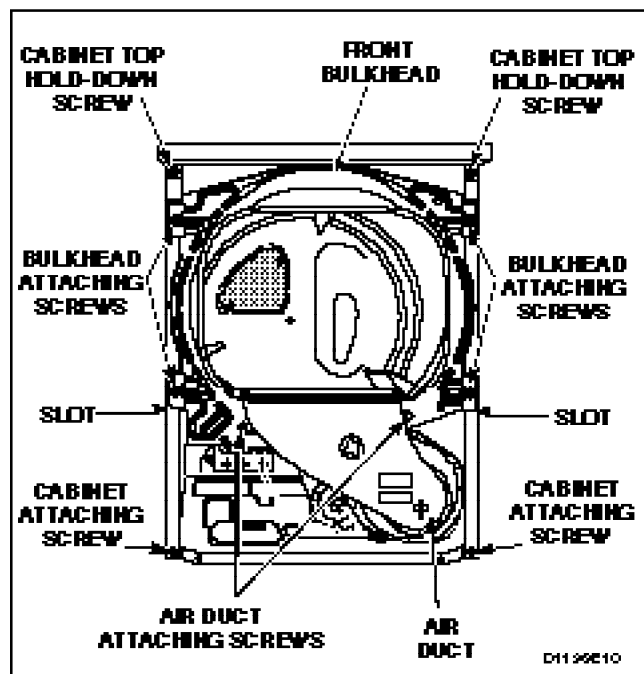

Figure 37
- Remove four screws holding bulkhead to front flange of cabinet and lift complete bulkhead assembly out of slots in cabinet, *Figure 37*.
- f. Remove two screws holding duct to front bulkhead and remove air duct, *Figure 37*
- f. Remove four screws holding bulkhead to front flange of cabinet. Then, lift complete bulkhead assembly out of slots in cabinet, *Figure 37*.
- Remove four screws holding bulkhead to front flange of cabinet. Then lift complete bulkhead assembly out of slots in cabinet, *Figure 37*.
- Loosen two cabinet top hold-down screws, *Figure 37*.